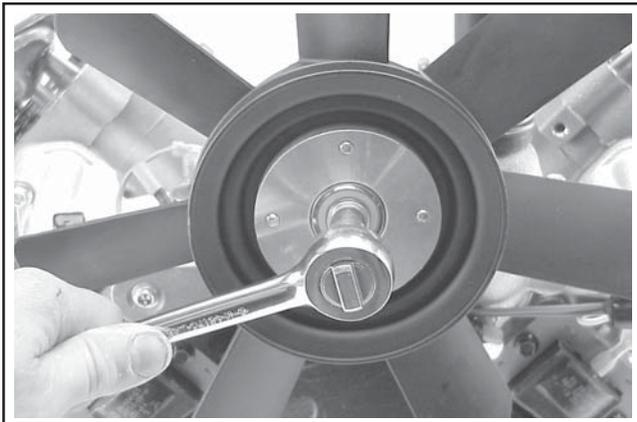

Figure 9-33. Removing Front Flange Nut and Flat Washer.
1. Remove the front hex flange nut and washer securing the fan assembly to the fan shaft. Remove the fan and pulley assembly from the upper mounting bracket. See Figure 9-33.